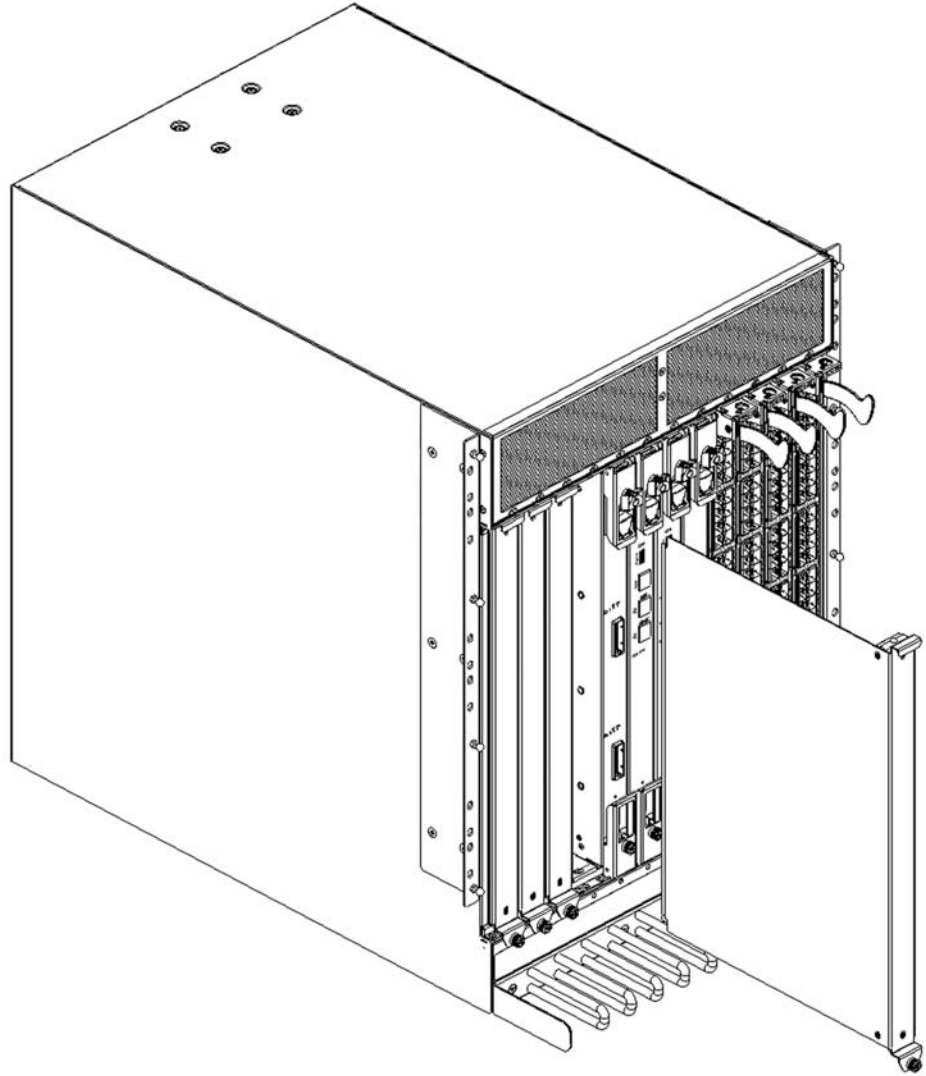

Figure 24. Port blade removal and installation (16-port blade shown as example)
3. Pull the filler panel out of the chassis. (See Figure 24 on page 57.)